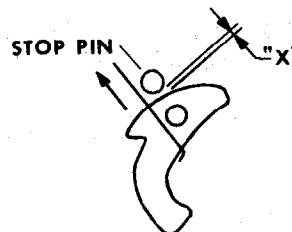

Figure 4. Flyweight/Axle Wear Check (Pull)
- a. Rotate the impulse coupling so that the flyweight axles are adjacent to the stop pins. Pull the flyweight toward the stop pin using the same wire hook, and in the same manner as used in the preceding clearance check. (See figure 4)
- b. Insert feeler gages between the stop pin and flyweight to measure the clearance ("X" of figure 4) while the flyweight is held outward. Maintain constant outward pressure on the flyweight while measuring clearance to ensure an accurate clearance check is being made, and record measurement "X".